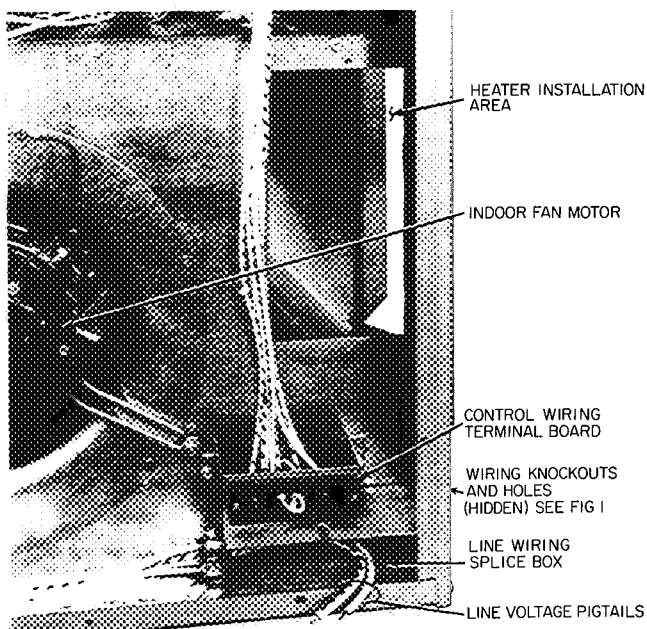

Fig. 5 – Unit Wiring Terminal Location
Step 8 – Bring Line Power Leads Into Unit. Extend leads from fused disconnect thru hole provided (Fig. 1) into line wiring splice box (Fig. 5).
Step 11 – Control Power Wiring (24 v) is brought thru 7/8-in. hole provided in unit, Fig. 1. Extend leads to unit control wiring terminal board, Fig. 5. Connect leads to terminal board as directed in Fig. 7.